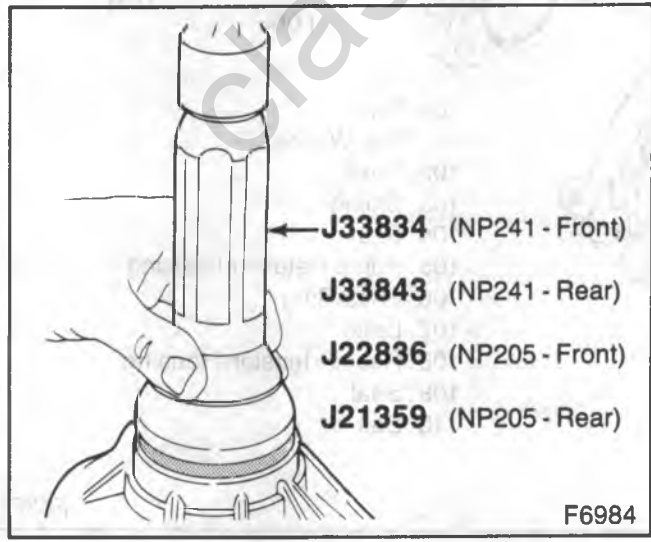

Figure 6 — installing the Output Shaft Seal
↔ Install or Connect (Figure 6)
- Install the seal using the proper tool (figure 6).
Install or Connect (Figures 6 and 7)
5. Bolts (107).
- Apply Loctite 242 or equivalent to the threads of the bolts (107).
6. Seal (109).
- Install using J33843 (figure 6).